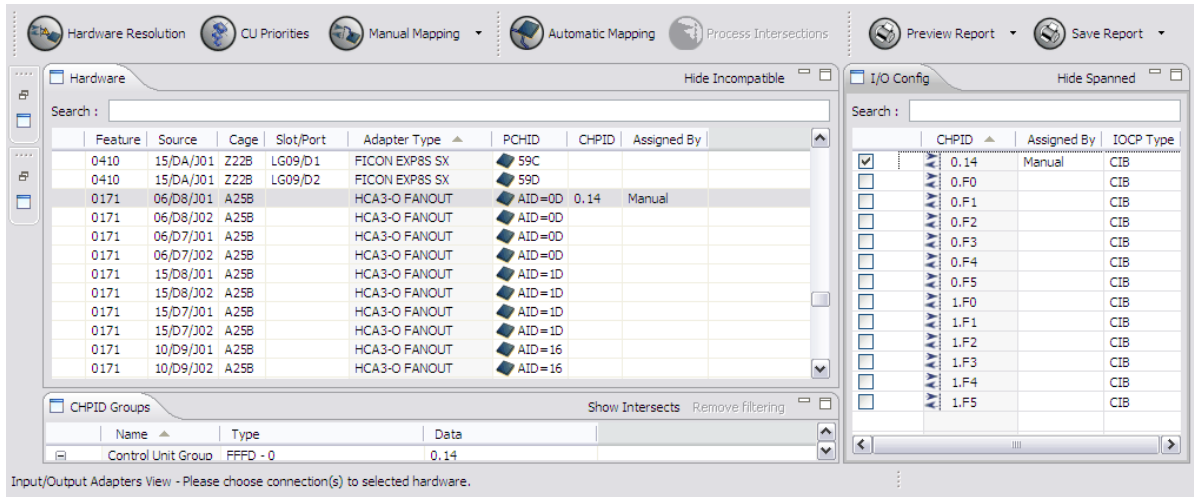

Figure 120. Changes in Hardware and I/O Config panes
- b. Select one or more empty check boxes in the I/O Config pane to assign the CHPID or CHPIDs. Figure 120 on page 95 shows an example of selecting a single check box.